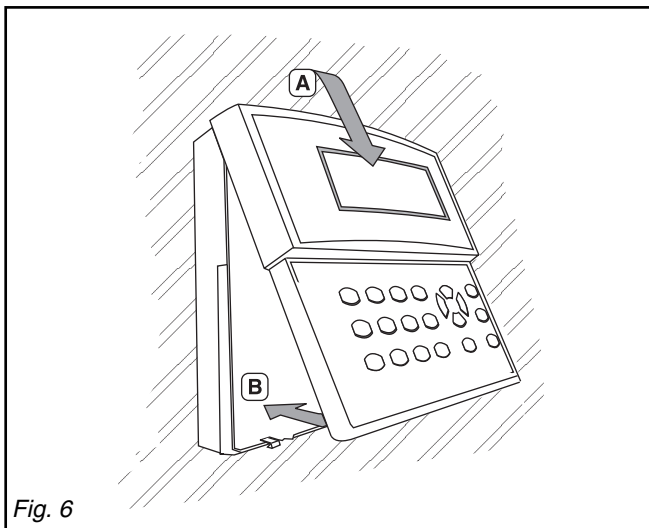

Fig. 6
5. Close and seal the housing (fig. 6)
- 1 - Engage the cover in the top retainer (A).
- 2 - Close the cover (B).